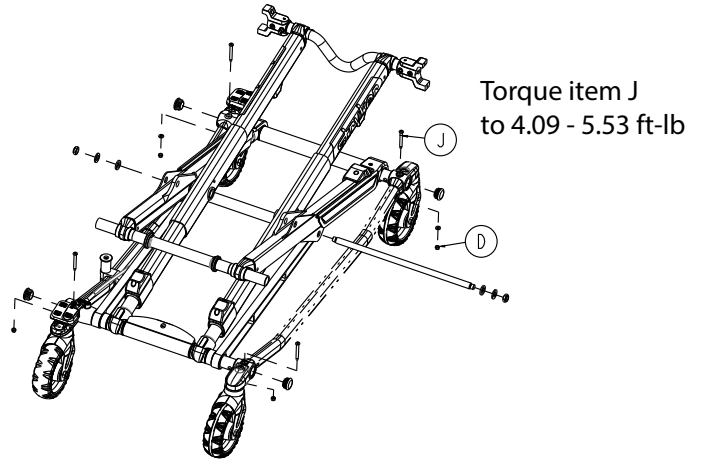

Figure 69 – Remove the head end bolt and nut
- Using a T27 Torx driver and a 3/8" combination wrench, remove the caster mount bolt (J) and fiberlock nut (D) that secure the outer base tube (Figure 69). Save the bolt and nut. Repeat on the foot end.